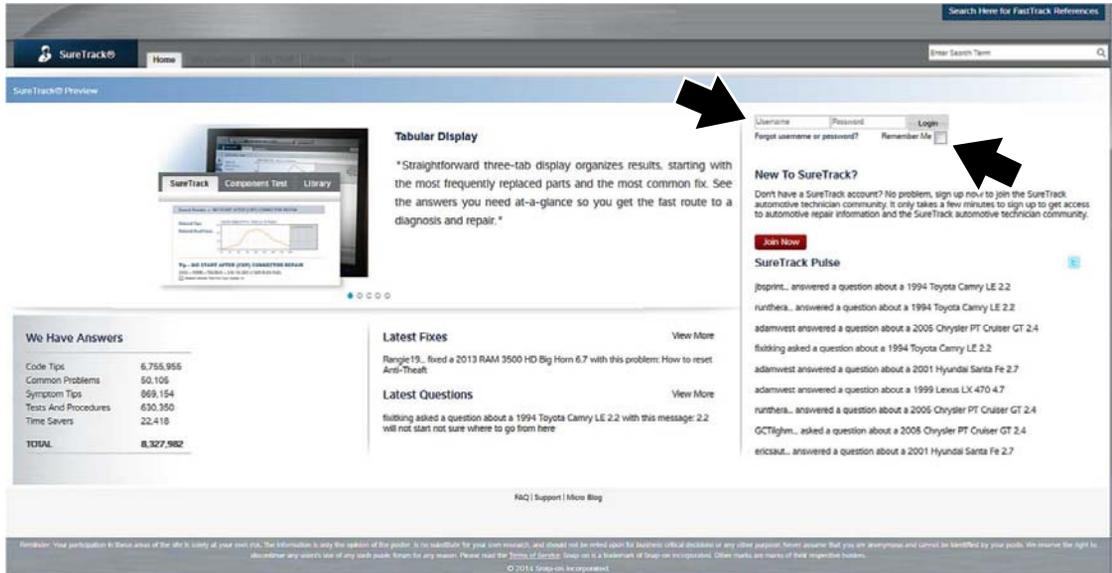

Figure 15-4 SureTrack Website Login Page (Login fields and Remember Me check box)
2. From the SureTrack website Login page, enter your username and password (Figure 15-4).
3. (Optional) Select the **Remember Me** check box, to save your login information and stay continually logged in to SureTrack (Figure 15-4).